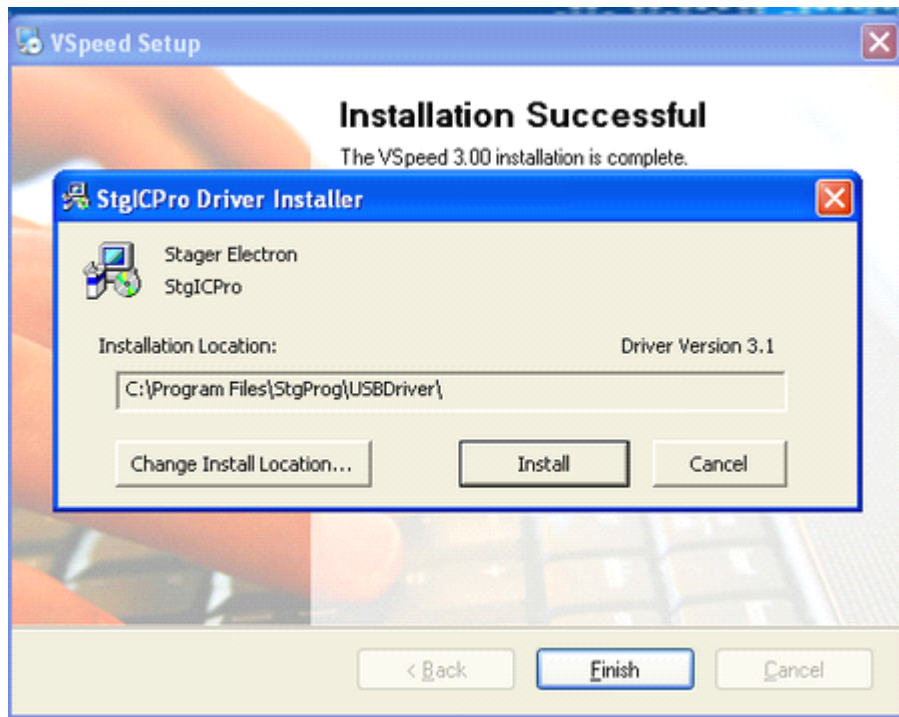

Figure 7: VSpeed Setup USB Driver Pre-install
(6) With the completion of the installation of VSpeed, The Window will be showing as Figure 7. It will guide you to pre-install the USB Driver.